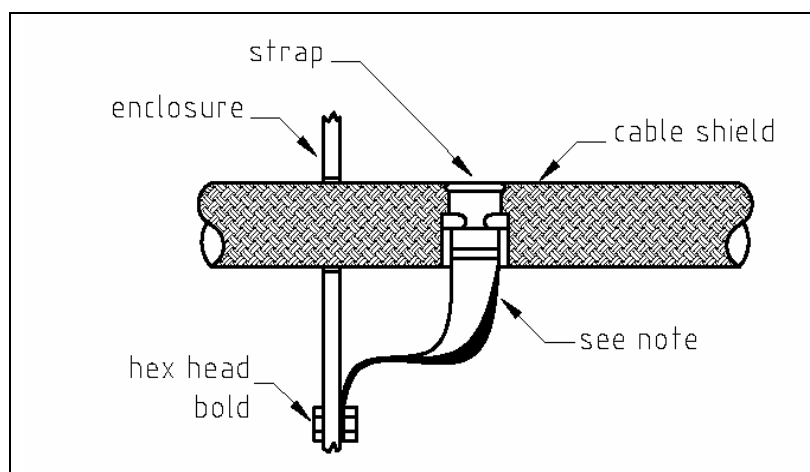

Fig. 3.7 – Partition penetration
The crossing of the cabinet should be accomplished with a low impedance (RF) connection between cable shield and enclosure. If a connector is not involved, the shortest practical lengths of connecting strap should be used (see Fig.3.7).